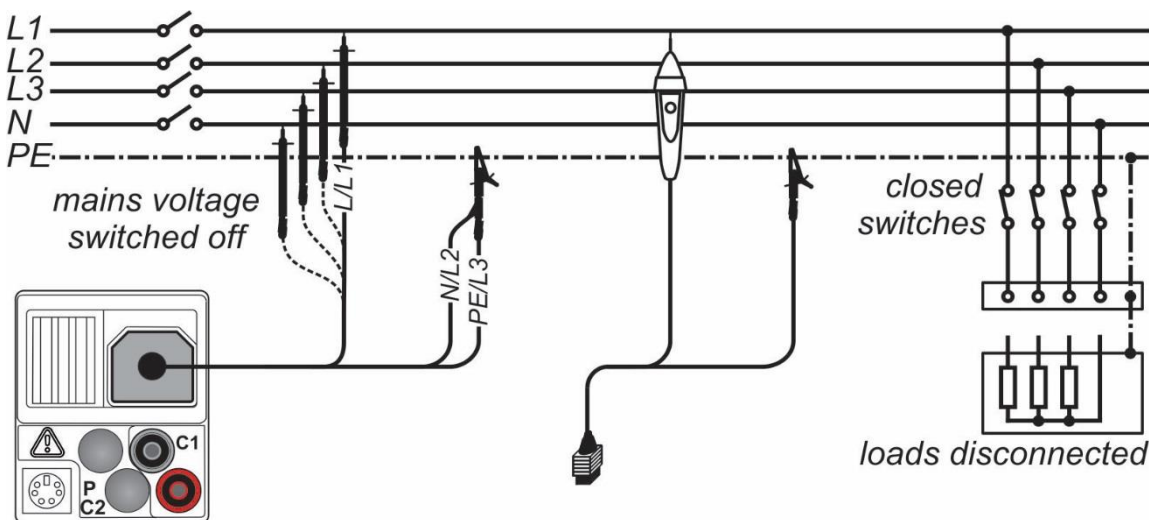
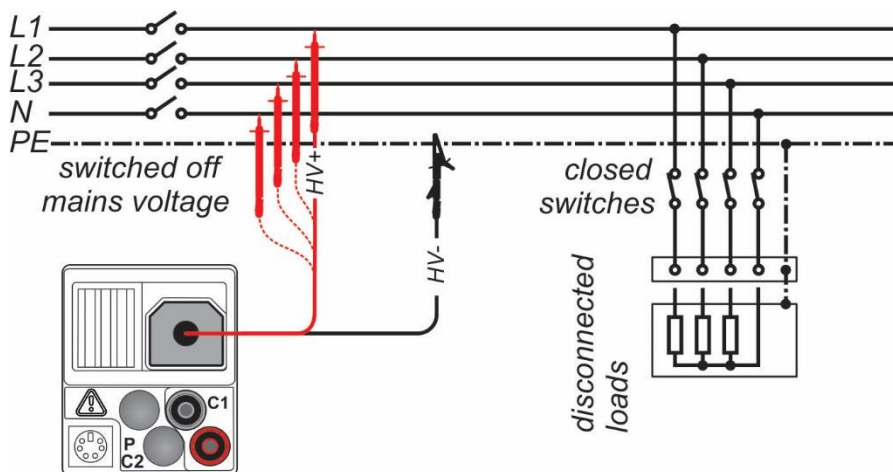

Figure 5.6: Connection of 3-wire test lead and tip commander ( $U_N \leq 1 \text{ kV}$ )
Figure 5.7: Connection of 2.5 kV test lead ( $U_N=2.5\text{ kV}$ )
- ❑ **Connect** test cable to the instrument and to the item to be tested (see Figure 5.6 and Figure 5.7).
- ❑ **Connect** test cable to the instrument and to the item to be tested (see *Figure 5.6 and Figure 5.7*).